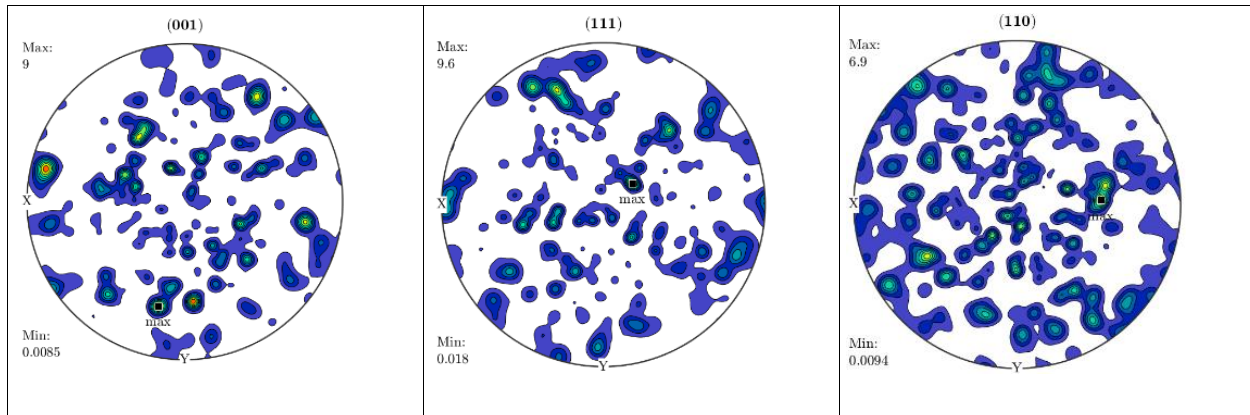
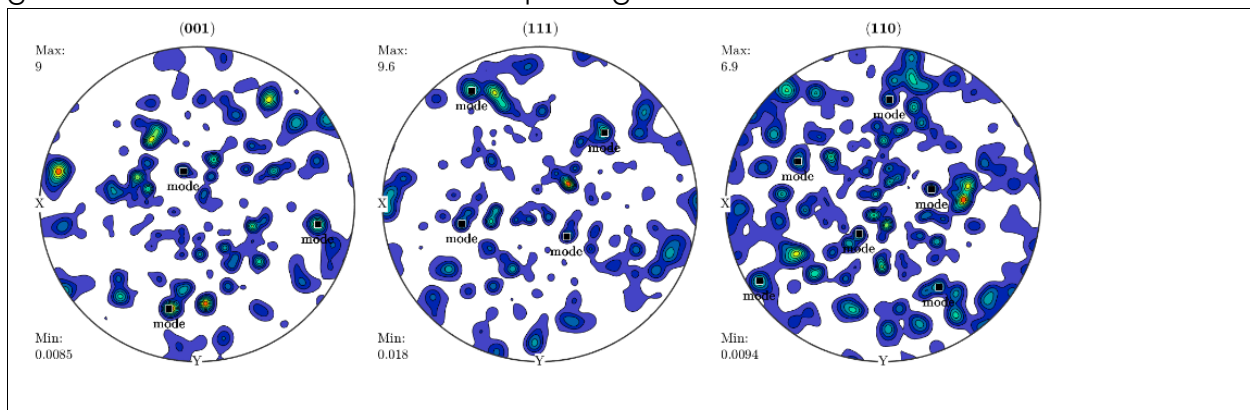

Figure 48: Copper data plotted as continuous, contour-filled pole figures, each with the maximum intensity marked
Figure 49: Copper data plotted as pole figures, each with the mode labeled
**Keep in mind that the result returned from the `calcPDF` command is a vector3D, while the output of `calcModes` is an orientation.** Let's compare the results by first plotting the maximum position overlaid on a series of pole figures (Figure 48).
Looking at the results (shown as Figure 48) note that the max is in a different position for each pole figure. In other words, **this does not provide information about the dataset, only this pole figure**. Also note that only one point is drawn per pole figure.
Calculate the mode and compare the results shown in Figure 49 to Figure 48.
From the output shown as Figure 49 note the mode function is near or on top of the maxima for all pole figures, but in many cases is close to the peak rather than right at the maximum value. Also note that there are three points marked in (001), four in (111), and six in (110), since we're plotting an orientation, and the number of reflections of a given orientation is different in each pole figure.